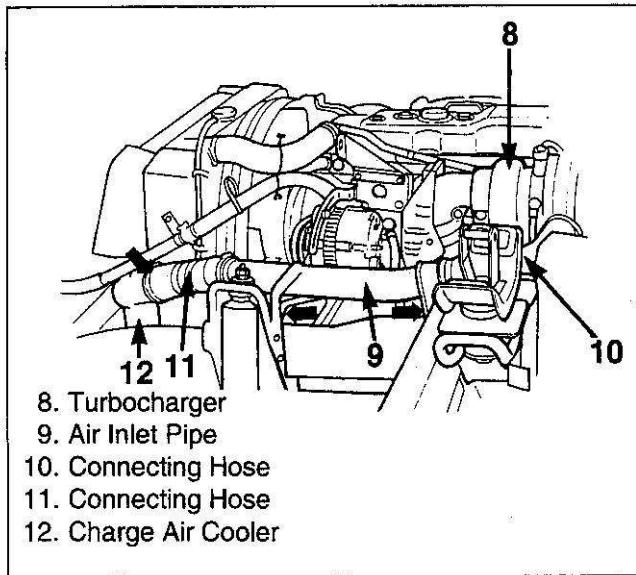

Figure 4. Air Inlet Pipe Attachment
7. Air inlet pipe (9) with connecting hoses (10) and (11) from the turbocharger (8) and charge air cooler (12) (figure 4).
28. Air inlet pipe (9) with connecting hoses (10) and (11) to the charge air cooler (12) and turbocharger (8) (figure 4).